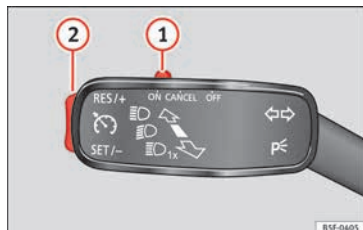

Fig. 182 Turn signal and main beam headlight lever: switch and rocker switch for the cruise control.
- Move the switch » **Fig. 182 ①** towards the left to **ON**.
- Briefly press the lower part of the rocker switch **SET- » Fig. 182 ②** once when you have reached the speed you wish to set.
- Press the upper part of the rocker switch **RES+ » Fig. 182 ②** to increase the speed. The vehicle will continue to accelerate as
• Press the lower part of the rocker switch **SET-** » **Fig. 182 ②** to reduce the speed. The vehicle will automatically reduce its speed for as long as you keep the switch pressed. When you release the switch, the new speed is stored.
Cruise control is switched off if you reduce speed by depressing the brake pedal. Reactivate the control by pressing once on the upper part of the rocker switch **RES+** » **Fig. 182 ②**.
- when the lever **①** is moved in the direction of **OFF** without being fully engaged.
To resume cruise control, release the brake or clutch pedal or reduce the vehicle speed to less than 180 km/h (112 mph) and press once on the upper part of the rocker switch **RES+** » **Fig. 182 ②**.
The system is **completely turned off** by moving the control » **Fig. 182 1** -- all the way to the right hand side (set into the OFF position), or when the vehicle is stationary, switching off the ignition.